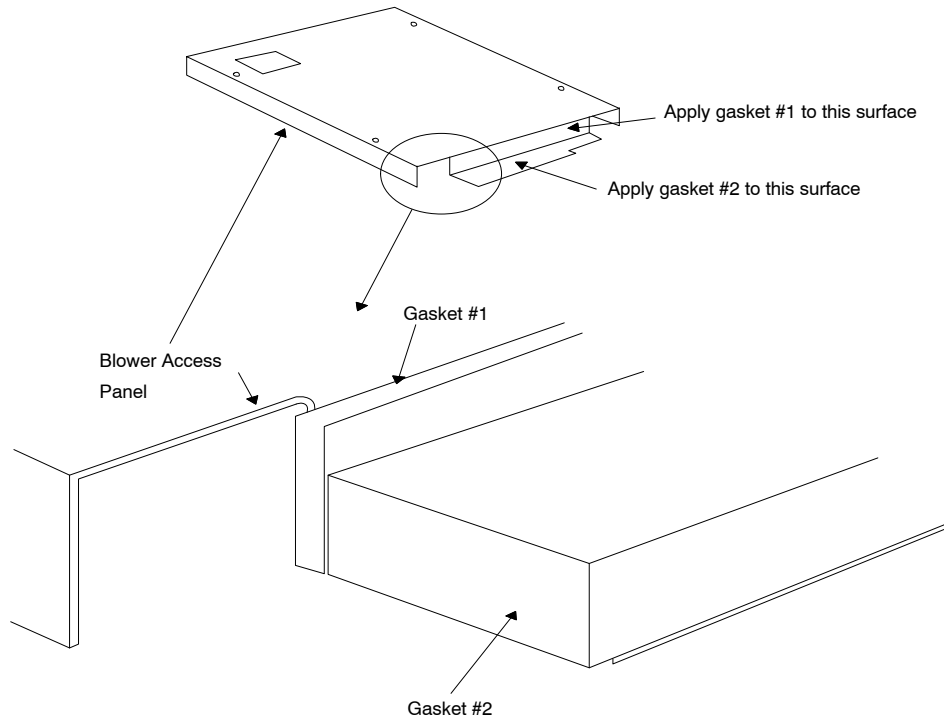

Fig 1 - Gasket Application on the Blower Access Panel
2. Apply gasket 1 referring to Fig. 1. Center in the first flange with slight overhang on both ends. Cover the flange completely.
3. Apply gasket 2 referring to Fig. 1. Center on the second flange with slight overhang on each end. Align the notch with the flange notch.